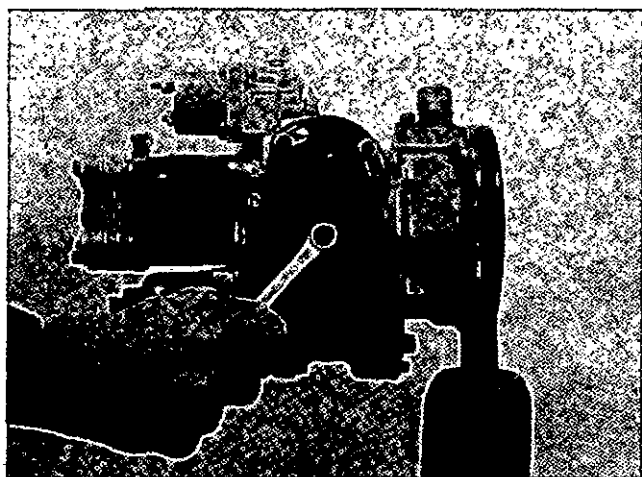

Fig. 10-4, (F5321). Install the Service Tool 3375137 on the AFC fuel pump.
4. If the fuel pump has an Air Fuel Control (AFC), remove the AFC cover plate. Replace it with the plunger adjustment Service Tool No. 3375137, Fig. 10-4.